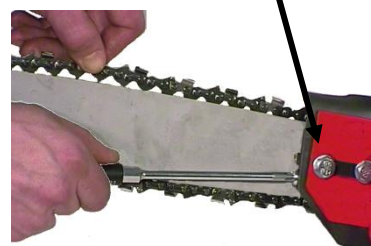

Figure 61.
3. Lift the input conveyor guard with the lever in Figure 61, and ensure that the guard is locked in the raised position.